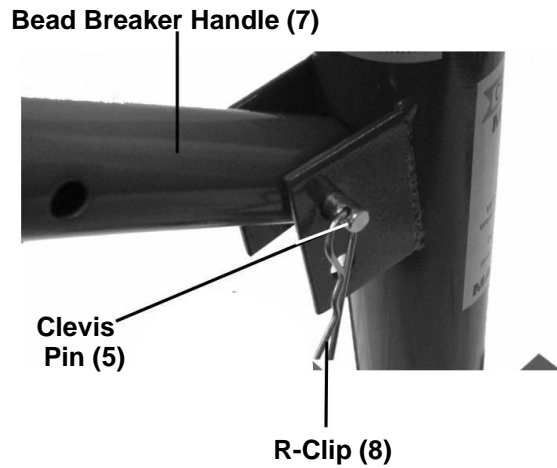

Figure 4
12. Place the end of the Bead Breaker Handle (7) in the bracket on the side of the Center Post until the hole on the handle's end aligns with top or bottom holes of the bracket (depending on the size of the tire.)
13. Slide a Clevis Pin (5) through the bracket and Bead Breaker Handle, securing it using the R-Clip (8). See Figure 4, above.